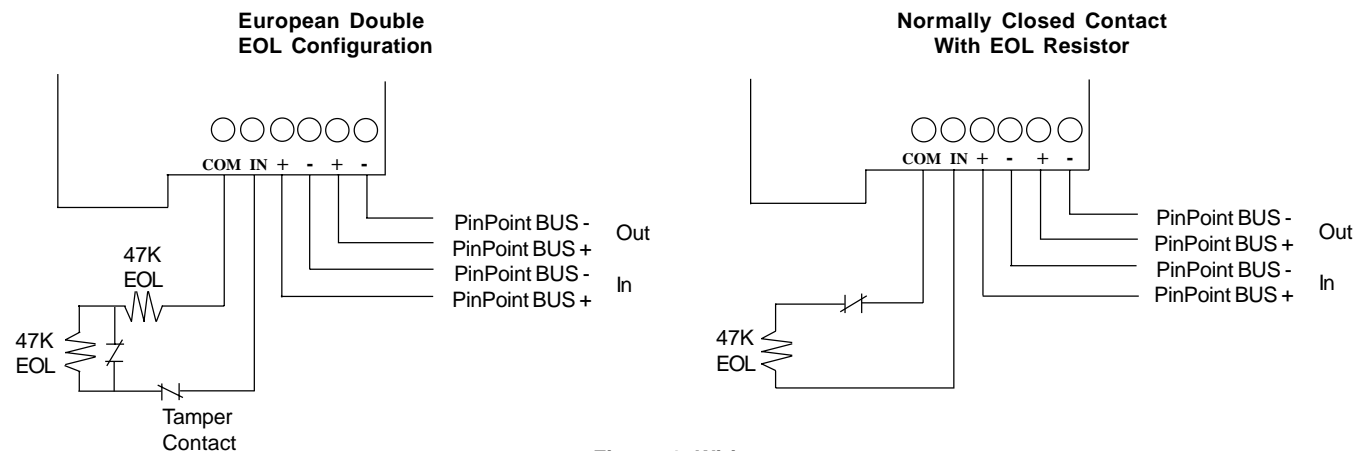

Figure 4. Wiring
6. Strip 1/4 inch (6.4mm) of insulation from the PinPoint wires. Connect the wires to the appropriate screw terminals and tighten the screws. See Figure 4.